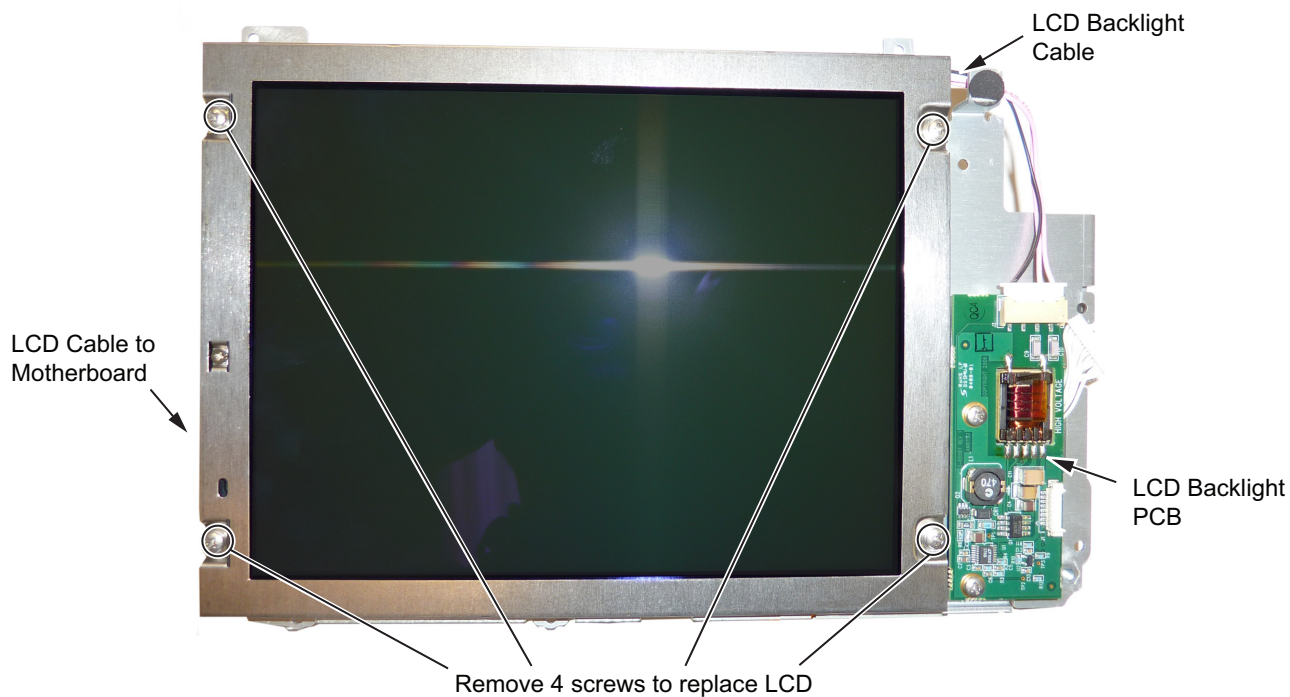

Figure 6-13. Replacing the LCD
5. Use a Phillips screwdriver to remove the four screws securing the LCD to the housing, see Figure 6-13.